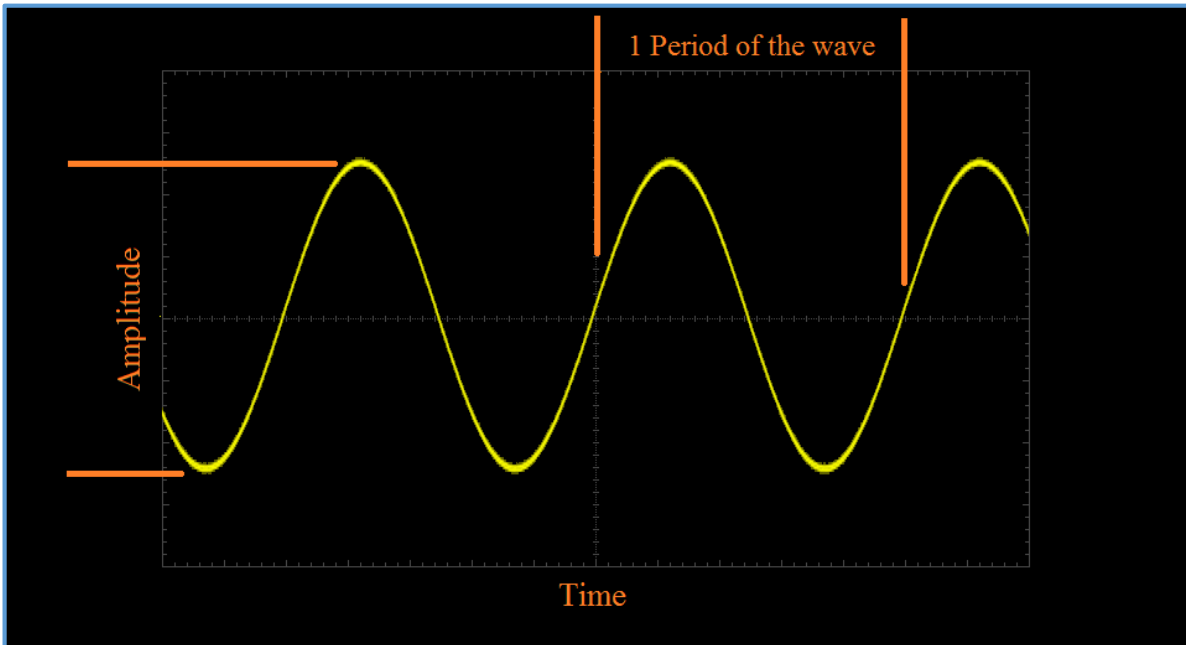

Figure 1-2: Sinusoidal waveform with common waveform terminology.
The period of a time-varying signal is the smallest amount of time that defines a fundamental repeating element of the waveform. **Figure 1-2** shows a sinusoidal waveform illustrating the amplitude and one period of the waveform.
**Figure 1-2** showed a single sine waveform. **Figure 1-3** illustrates what happens when we source a 5V sine wave into an oscilloscope: